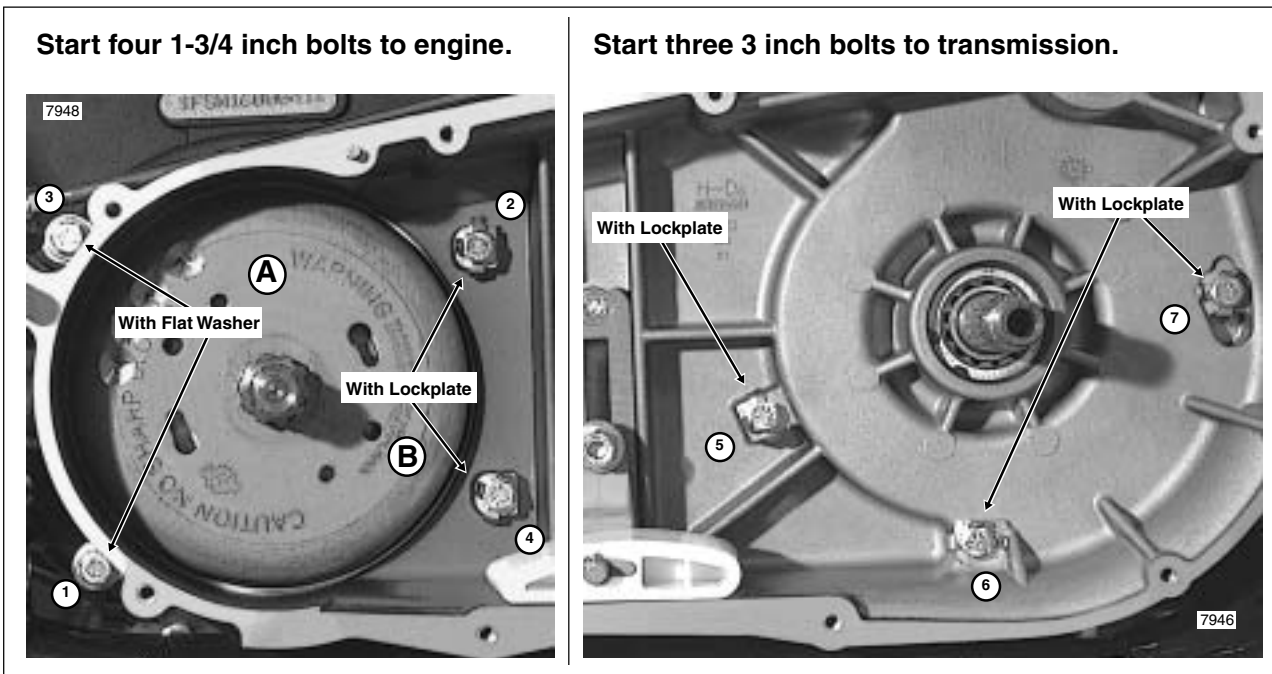

Figure 6-38. Primary Chaincase Screw Size and Torque Sequence
- Around the two rear primary chaincase to crankcase bolt holes. See B in left frame of Figure 6-38.
- Around the three primary chaincase to transmission bolt holes. See right frame of Figure 6-38.
5. See A in left frame of Figure 6-38. Start two forward bolts (1-3/4 inches with flat washers) to fasten outside edge of primary chaincase to front of crankcase.
See B in left frame of Figure 6-38. From within the primary chaincase, start two forward bolts (1-3/4 inches with lockplates) to fasten primary chaincase to rear of crankcase.
See right frame of Figure 6-38. From within the primary chaincase, start three rearward bolts (3 inches with lockplates) to fasten primary chaincase to front and rear of transmission.
Tighten the seven bolts to 18-21 ft-lbs (24-28 Nm) in the numerical sequence shown in Figure 6-38.